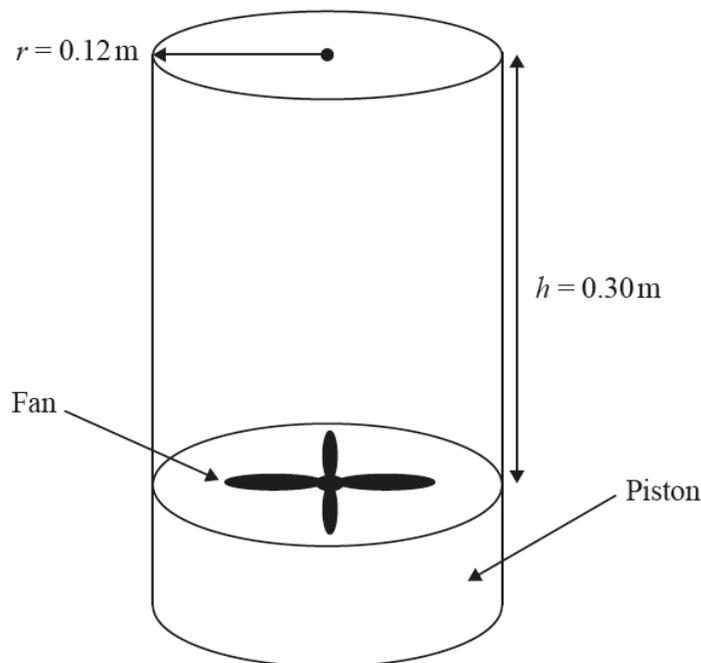

Fig. 8
- 6 (a) Fig. 8 shows a tank filled with helium, at an initial temperature of 70°C .